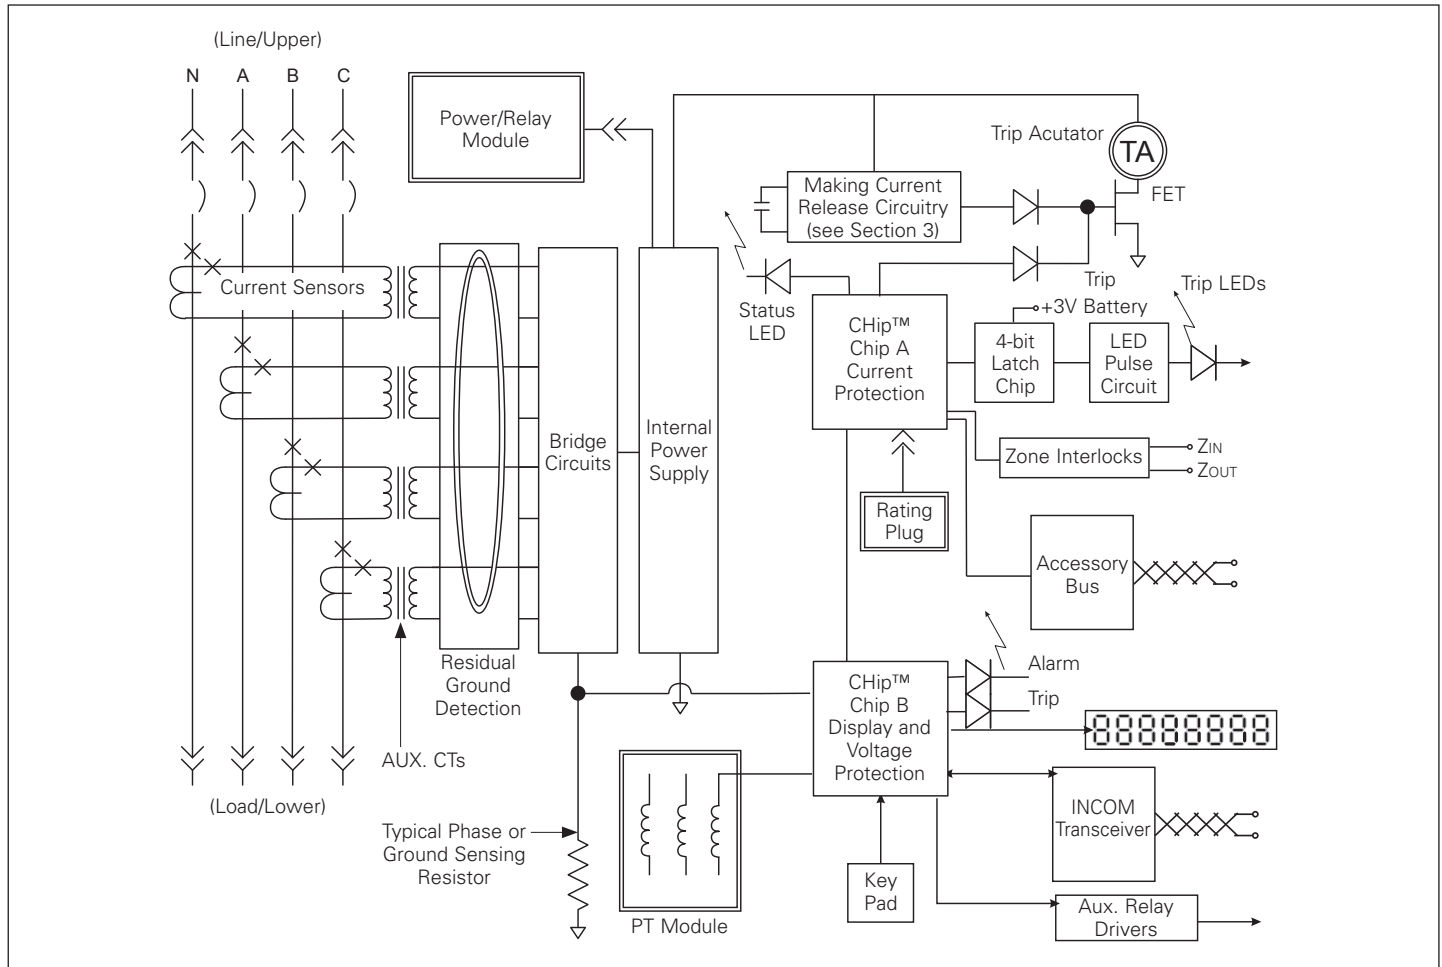
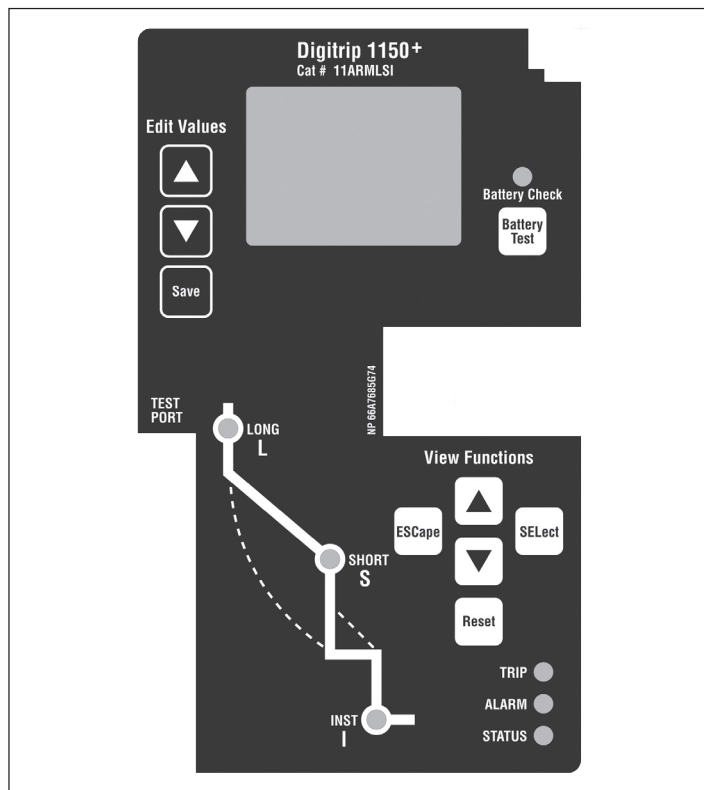
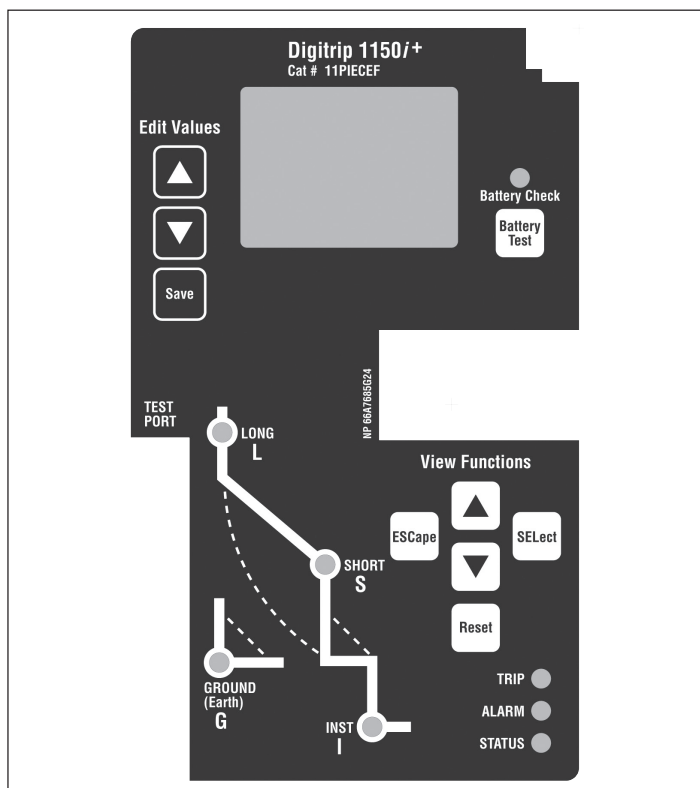

Figure 15. Digitrip 1150 Block Diagram with Circuit Breaker Interface
Figure 16. Digitrip 1150 LSI with Arcflash Reduction Maintenance System™
Figure 19. Digitrip 1150/ IEC-EF
The Digitrip uses the Eaton custom-designed CHip™, an integrated circuit that includes a microcomputer to perform its numeric and logic functions. The principles of operation of the trip unit are shown in **Figure 15**.
The four Cause of Trip LEDs on the face of the trip unit, shown in **Figure 1** and **Figure 16** to **Figure 19**, flash red to indicate the reason for any automatic trip operation. Each LED is strategically located in the related segment of the time-current curve depicted on the face of the trip unit. The reason for the trip is identified by the segment of the time-current curve where the LED is illuminated. Following an automatic trip operation, the backup battery shown in **Figure 15** continues to supply power to the LEDs. The LED pulse circuit, also shown in **Figure 15**, is provided to reduce battery burden and will flash the Trip LED approximately every four seconds. Therefore, it is important to view the unit for at least five seconds to detect a flashing trip indicator. Pushing the Reset button extinguishes the LED.
The green Status LED will indicate the operational status of the protection CHip A microprocessor of the trip unit. Even with no external power present, if the load current through the circuit breaker exceeds approximately 12% (three-phase power) of the current sensor rating, the LED will flash on and off once each second indicating that the trip unit is energized and operating properly (see **Figure 15**).
Zone selective interlocking (or zone interlocking) is available on the Digitrip 1150 for the short delay and ground fault protection functions (see **Figure 15**). The zone interlocking signal is wired via a single set of wires labeled Zone In (Zin) and Zone Out (Zout) along with a zone common wire. The zone selective interlocking function combines the interlocking of short delay and ground fault. A Zone Out signal is issued if the ground fault pickup is exceeded or if the short delay pickup is exceeded or if the value of $2 \times (I)$ is exceeded. Zone selective interlocking provides the fastest possible tripping for faults within the zone of protection of the circuit breaker and yet also provides positive coordination among all circuit breakers in the system (mains, ties, feeders, and downstream circuit breakers) to limit a power outage to only the affected parts of the system.